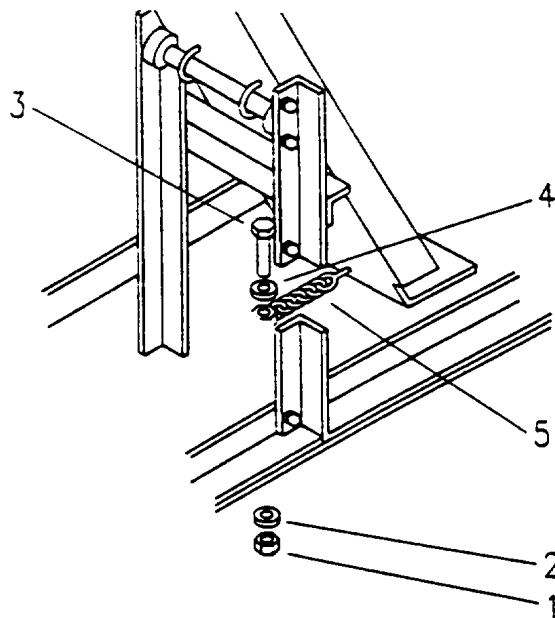

Figure 4-9. Tie Down Replacement
**4-17. TIEDOWN ASSEMBLY REPLACEMENT. (Refer to Figure 4-9)**